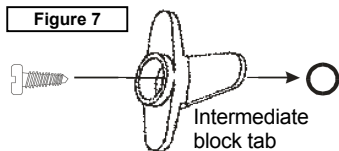

Figure 7
- Fasten the intermediate blocks (with the appropriate screws) making sure that the fastening tab can turn (see figure 7).